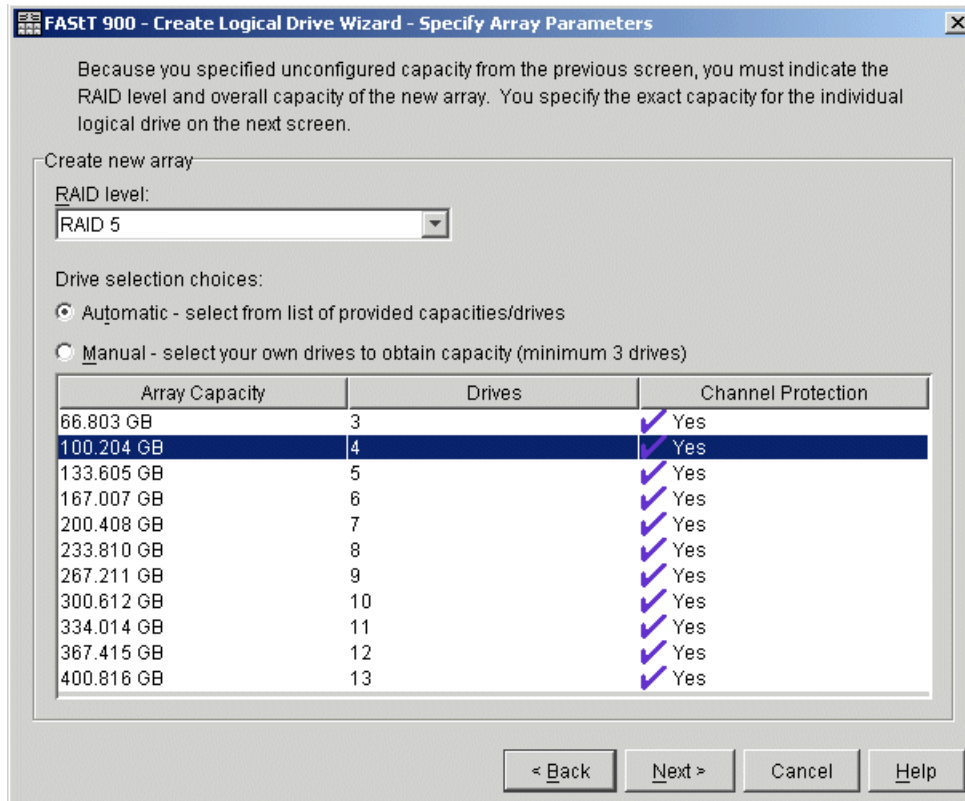

Figure 5-27 Choosing the drives used for the new array
3. The dialog shown in Figure 5-27 on page 147 displays; specify the RAID level and number of drives to use for the array. There are two possibilities for the drive selection. You can choose each drive manually. For this, you need to switch to the *Manual* drive selection option. Be sure that you understand performance and availability impacts when you choose the drives manually.